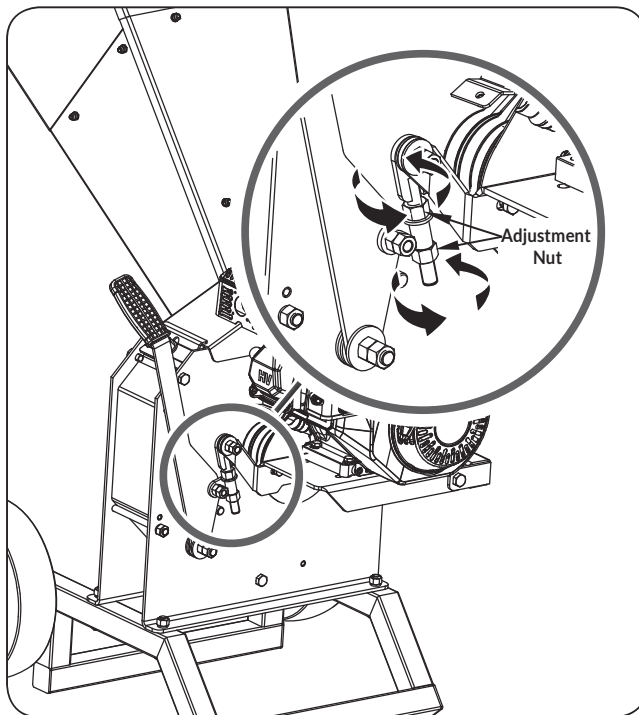

Figure 24
4. Loosen the two M12 adjustment nuts by turning them counter-clockwise and moving them downward to reduce any slack in the V- belts. (See **Figure 24**)